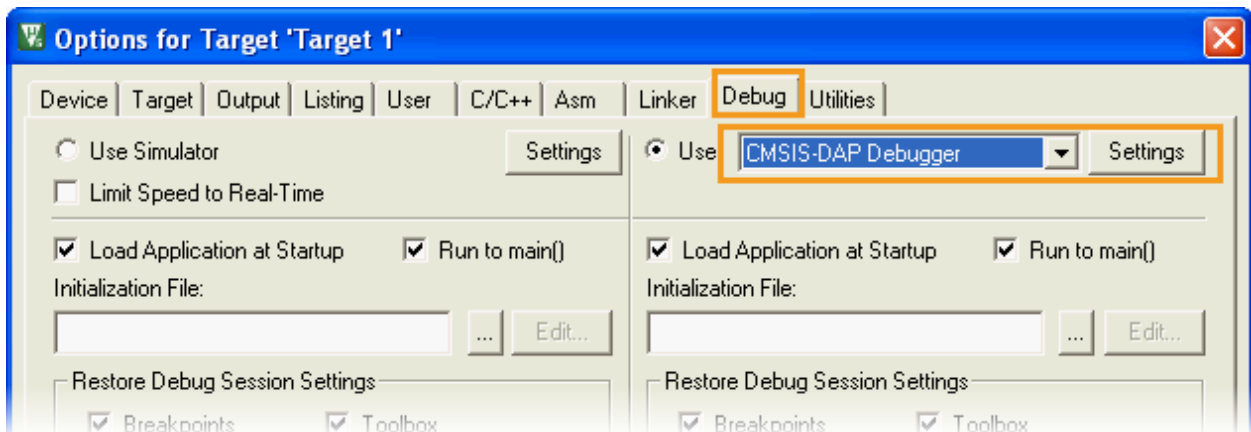

Figure 49. Select the CMSIS-DAP Debugger interface
- 5) Navigate to the **Debug** tab to select the debug interface. The HDK supports the CMSIS-DAP interface, so here you can select **CMSIS-DAP Debugger** (see Figure 49).